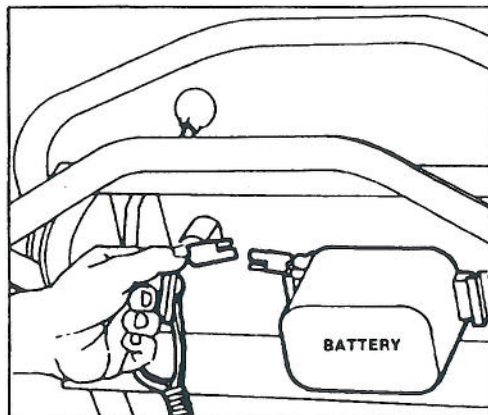

Figure 3
4. Charge battery (model 20676): refer to Charging Battery, page 11. Slide battery between slots on back of control panel and connect wires (Fig. 3). Insert key into switch when ready to start engine.